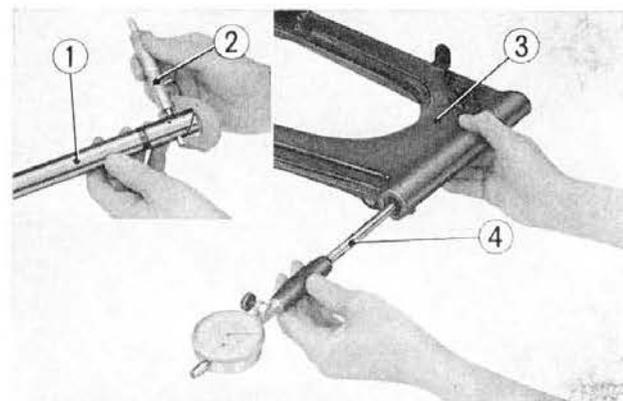

**Fig. 12-8**
4. Unscrew the rear fork pivot nut and bolt, and then separate the rear fork from the frame. The rear fork side washer and the pivot collar can be removed. (**Fig. 12-8**)